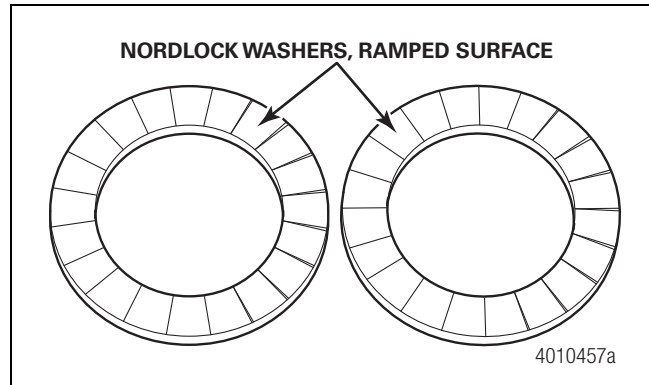
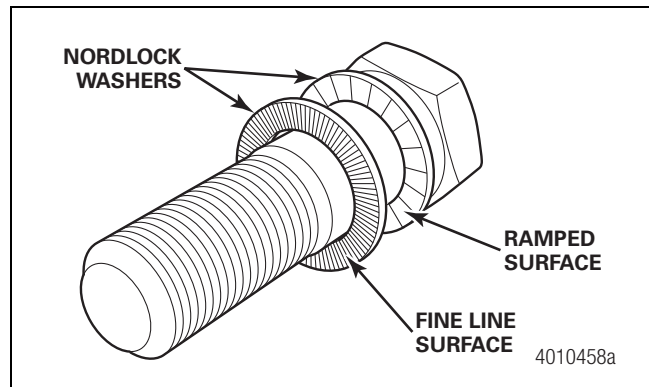

Figure 5.5
Figure 5.6
- **For radial mount brakes with M16 bolts:** Install two Nordlock washers onto each carrier bolt. The washers must be installed with the stepped surfaces facing each other and the fine line surfaces facing out. Figure 5.5 and Figure 5.6.